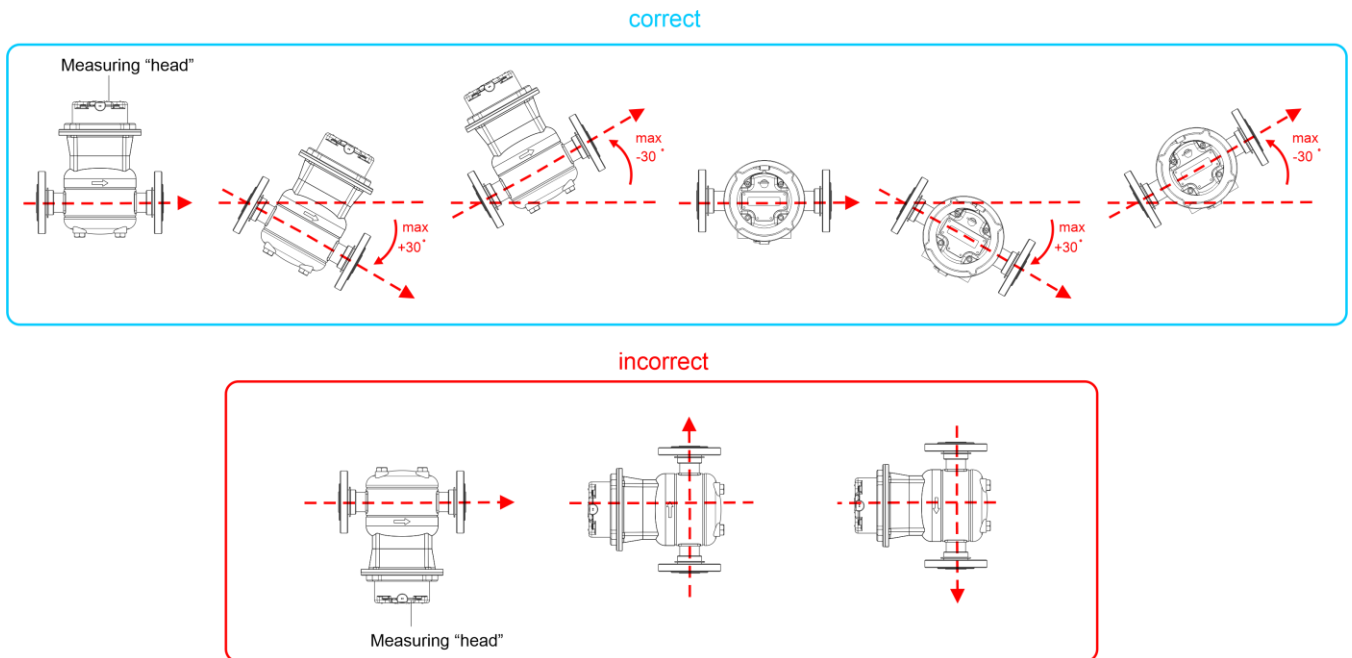

Figure 16 — Operational position of DFM Industrial in the horizontal and vertical planes
- 4)** To ensure the declared accuracy of measurement and the convenient measurements reading, we recommend to select the flow meter mounting location, as shown in figure 16.